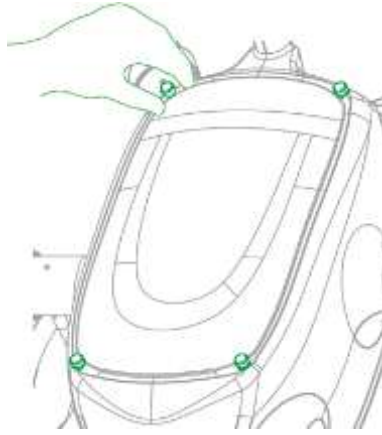

Figure 5-5
- Step 1 Loosen the screws of battery compartment cover and open the cover, as shown in Figure 5-5.